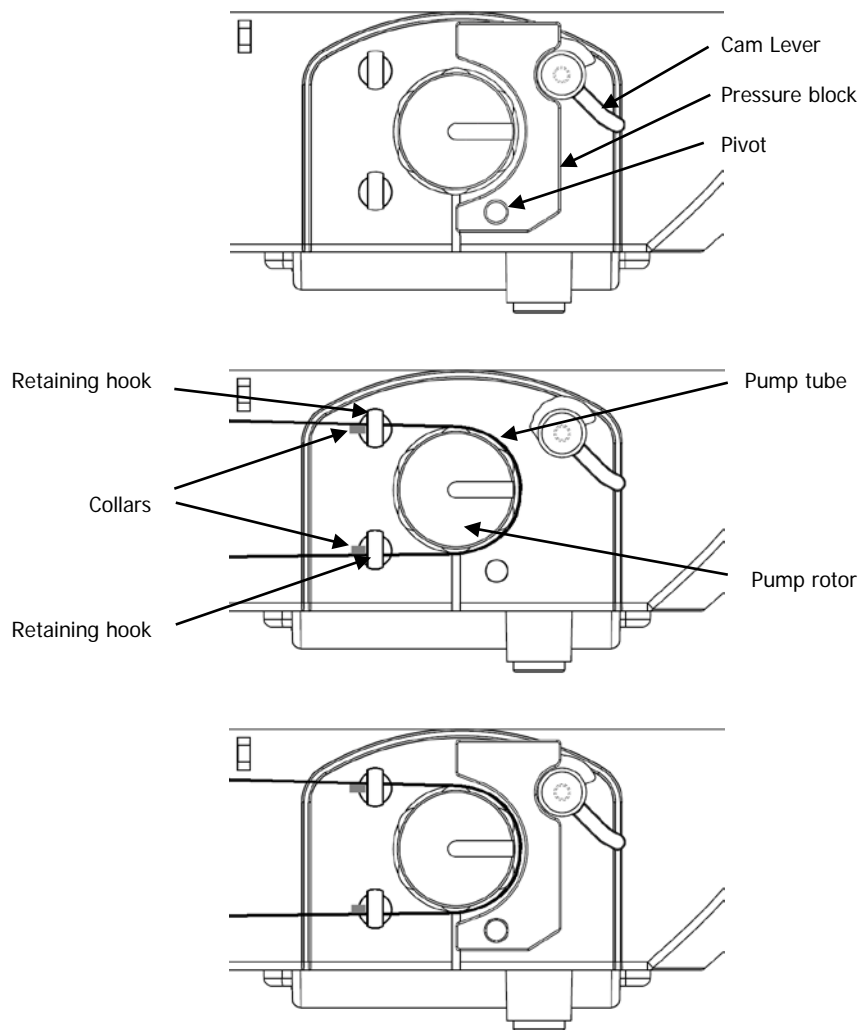

Figure 14 Fitting pump tubes to the pump
1. Swing the cam lever fully clockwise to release the pressure block, see Figure 14.